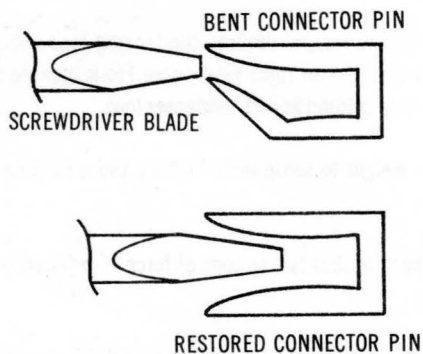

Figure 3-14 Connector Pin Repair
1. With power turned off, insert screwdriver blade vertically into bent connector pins, moving blade to separate them (See Figure 3-14).